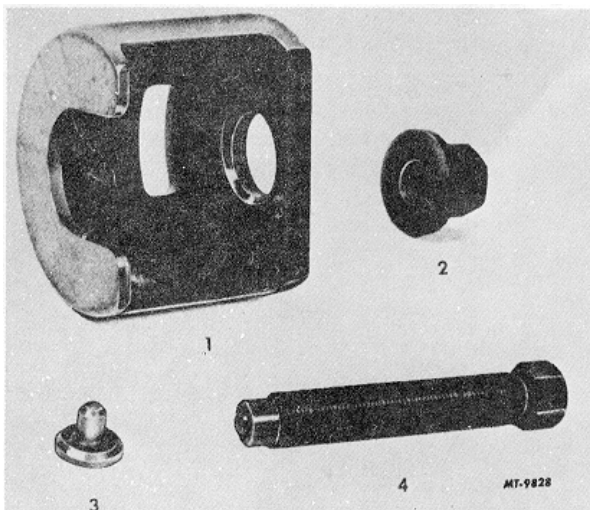
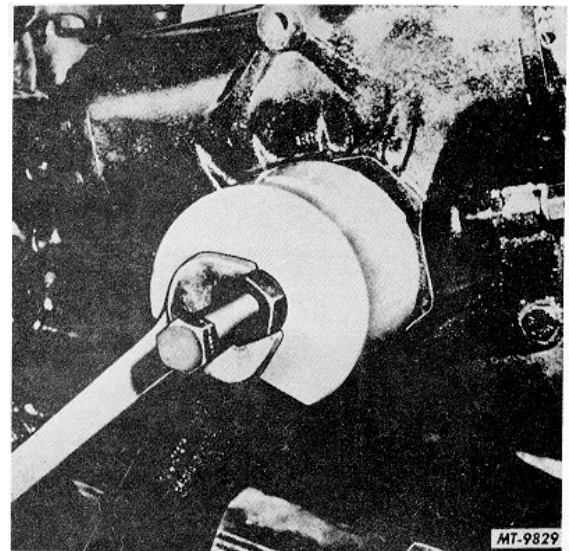

Fig. 5 Pitman Arm Puller
Fig. 6
3. Using pitman arm puller SE-2394, Fig. 5, remove pitman arm from output shaft as follows: The puller is applied to the arm as shown in Fig. 6. With the puller screw contacting end of levershaft, turn hex flanged nut to remove pitman arm. Additional pulling effort can be obtained by turning both the flanged nut and forcing screw. Where necessary install adapter at levershaft to provide a seat for the forcing screw.